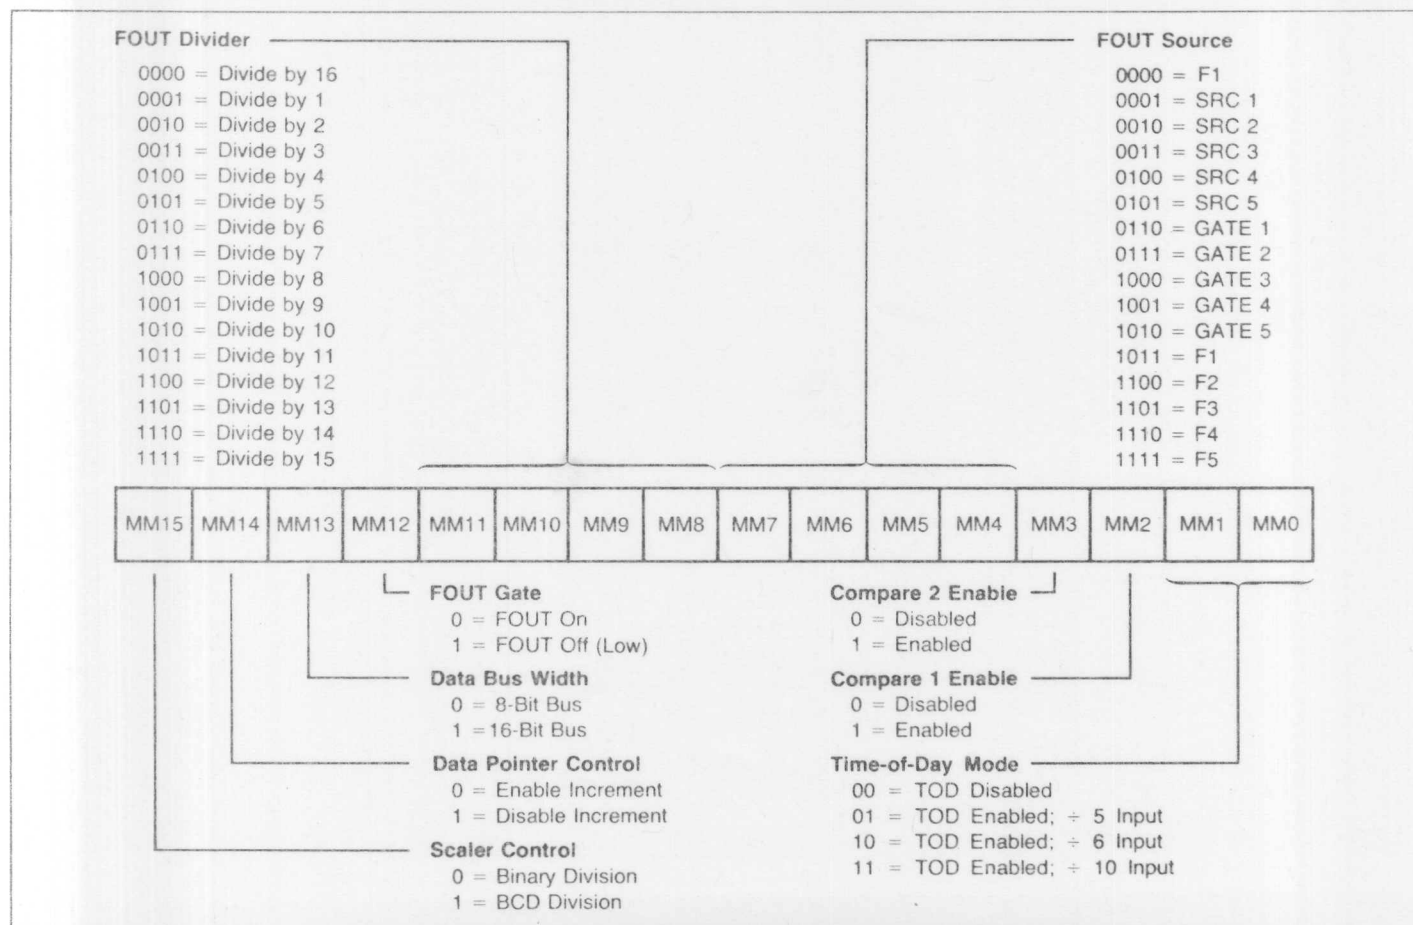

Figure 13. Master Mode Register Bit Assignments.
The 16-bit Master Mode register (MM) is used to control the additional programmable functions that supplement the counter-specific options controlled by the individual Counter Mode registers. The "Master Mode Control Options" section of this note describes the detailed functions associated with the register. Figure 13 shows the bit assignments for the Master Mode register.
The 16-bit Master Mode (MM) register is used to control those internal activities that are not controlled by the individual Counter Mode registers. This includes frequency control, time-of-day operation, comparator controls, data bus width and data pointer sequencing. Figure 13 shows the bit assignments for the Master Mode register. This section describes the use of each control field.